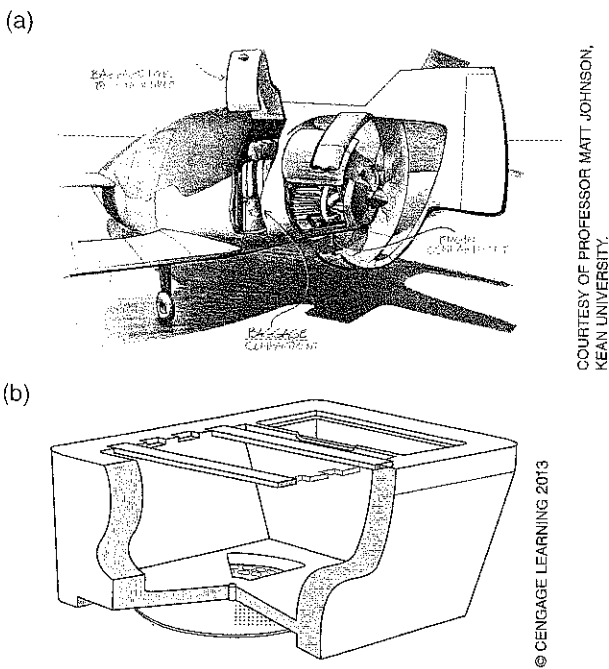

Figure 5-67: Cutaway drawings.
- ▶ **Cutaways** use a jagged edge to show what is under a part of the facade of an object (see Figure 5-67).